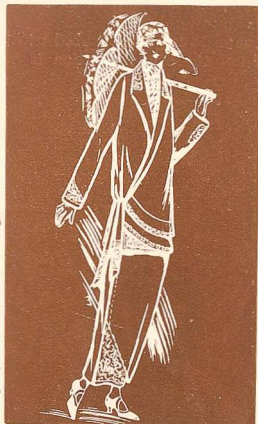

Fig. 9
• An exposure in the camera of from 30 to 60 seconds is usually sufficient. The plate is then developed, fixed, intensified, blackened, and dried, and is then ready to be printed on a piece of prepared zinc. Fig. 9 shows the appearance of a line negative.